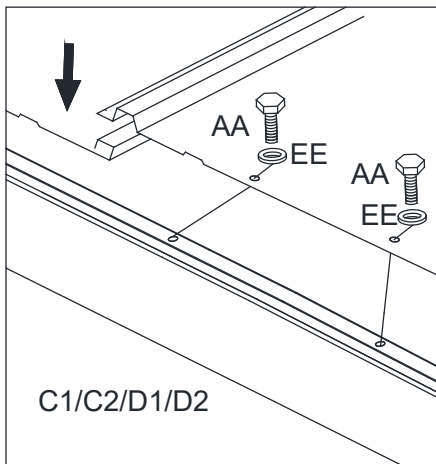

Figure 15-1
15. Connect the Big Top Panels(T1/T2/T3/T4/T5/T6/T7) as the order shown in the figure. Fix it with the bolts (AA) and washer (EE).See Figure 15-1 to15-4.